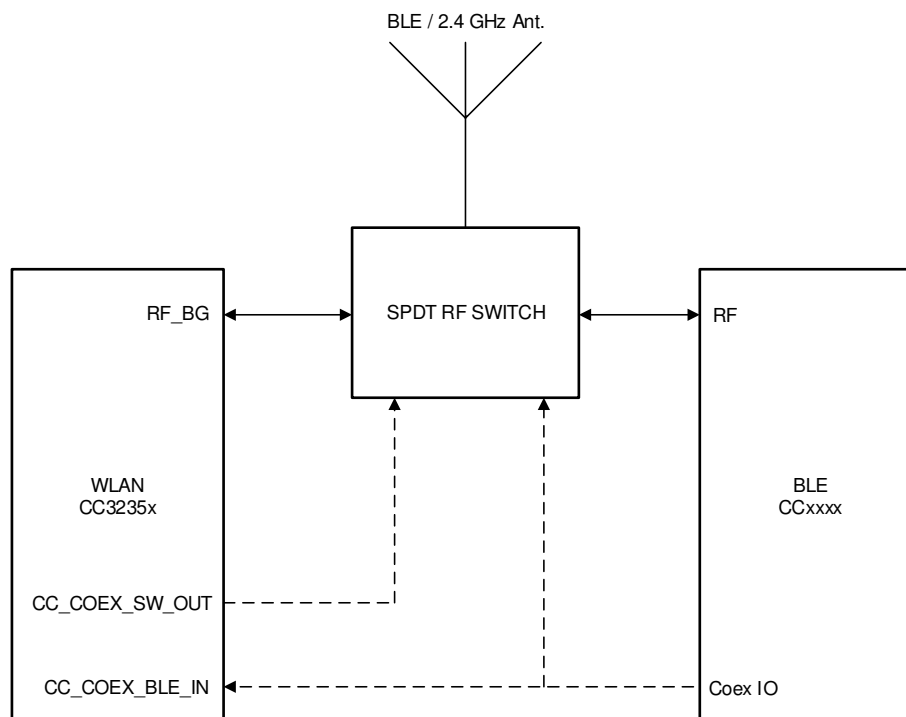

Figure 9-1. 2.4GHz, Single-Antenna Coexistence Mode Block Diagram
- 2.4GHz Wi-Fi band (see 図 9-1)